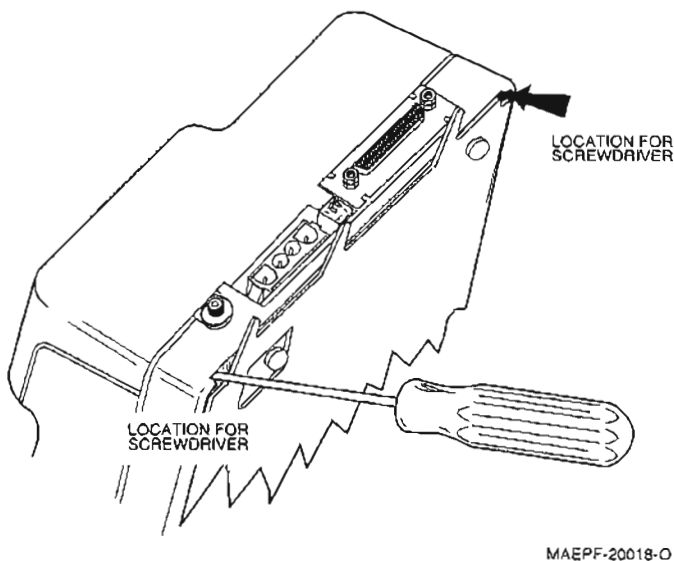

Figure 4. Disengaging the Two Catches
- (b) Referring to Figure 4, insert a small flat-bladed screwdriver into the two top housing catches at the rear of the housing. Disengage these catches one at a time while applying pressure to separate the top and bottom housings. These catches can only be reached from the underside of the console.